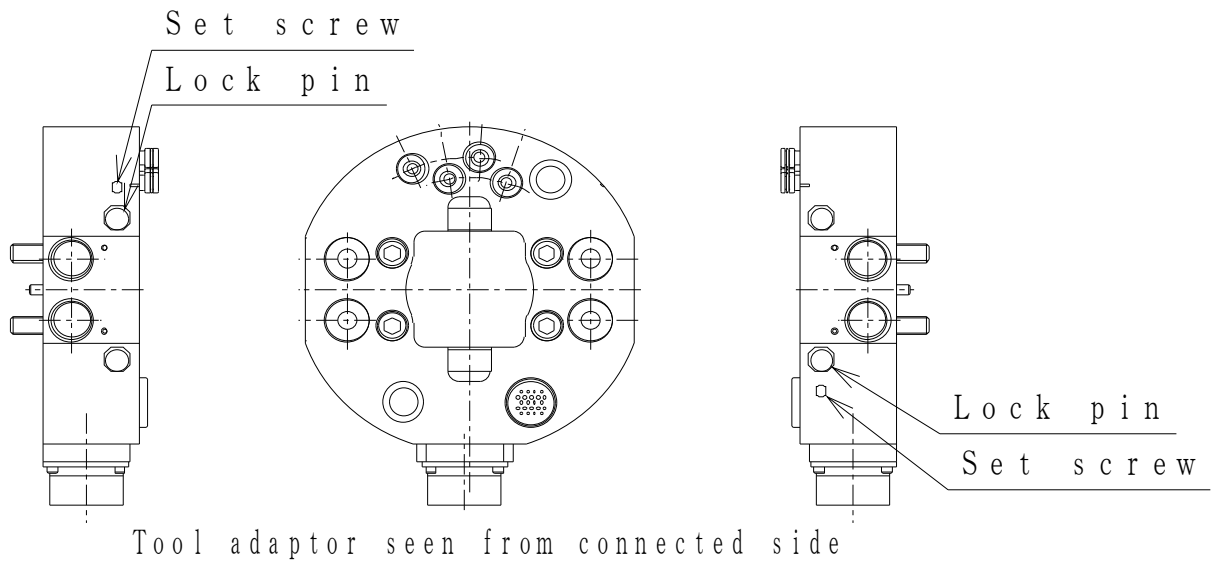

Fig. 10. Forced separation
- (2) Check that the air pressure is applied to the "UNCHUCK" port.
- (3) Remove two set screws on the tool side housing (see Fig. 10).
- (4) Knock out two lock pins, and force the tool to be separated.